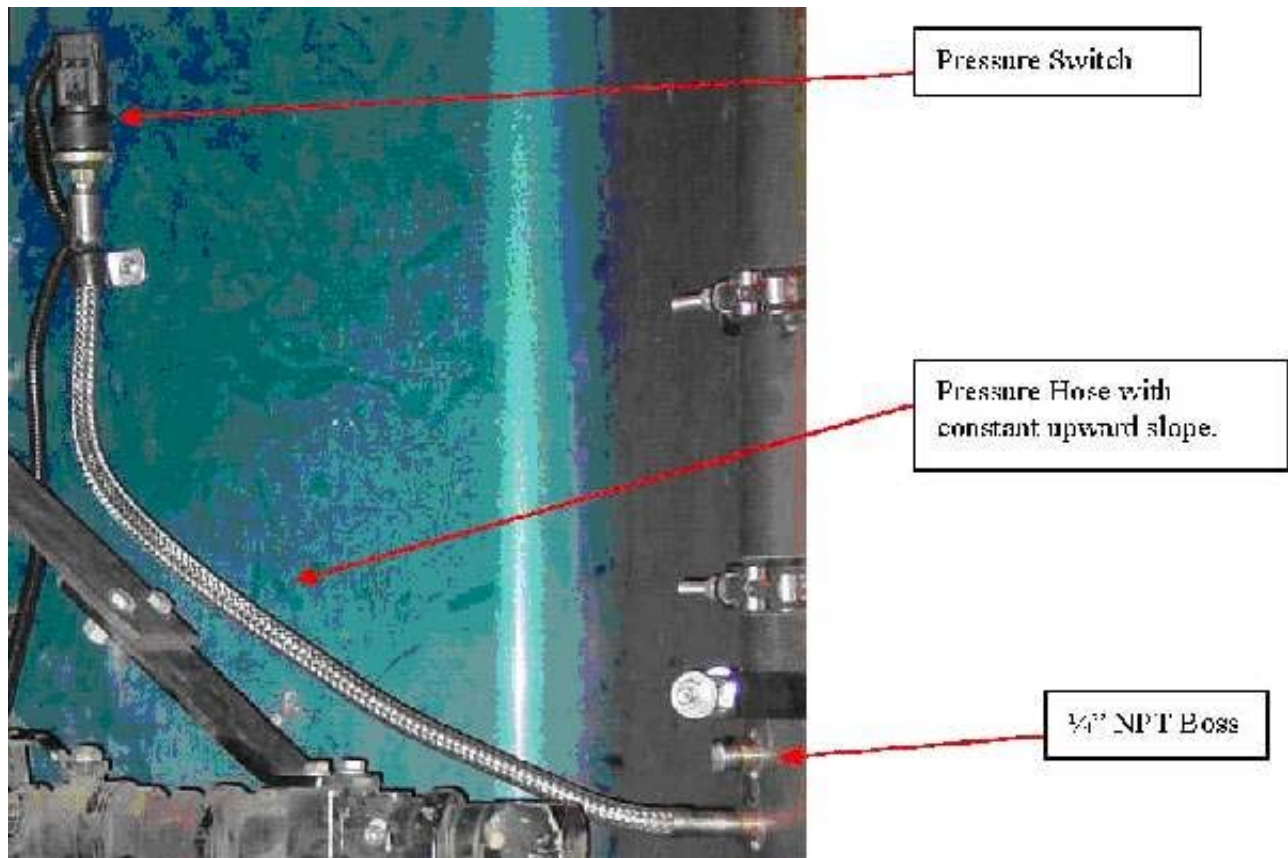

Figure 2 Pressure Connections at DPF Inlet
- Each DPF is fitted with at minimum one ¼" NPT boss that will accept the pressure hose. Before any fittings are installed on the DPF system, the location of the boss must be accessible and correctly positioned to ensure that the pressure hose can be attached and connected to the pressure switch with a constant upward slope in the hose (Figure 2). If the boss is not in the correct position, the DPF inlet head should be rotated.